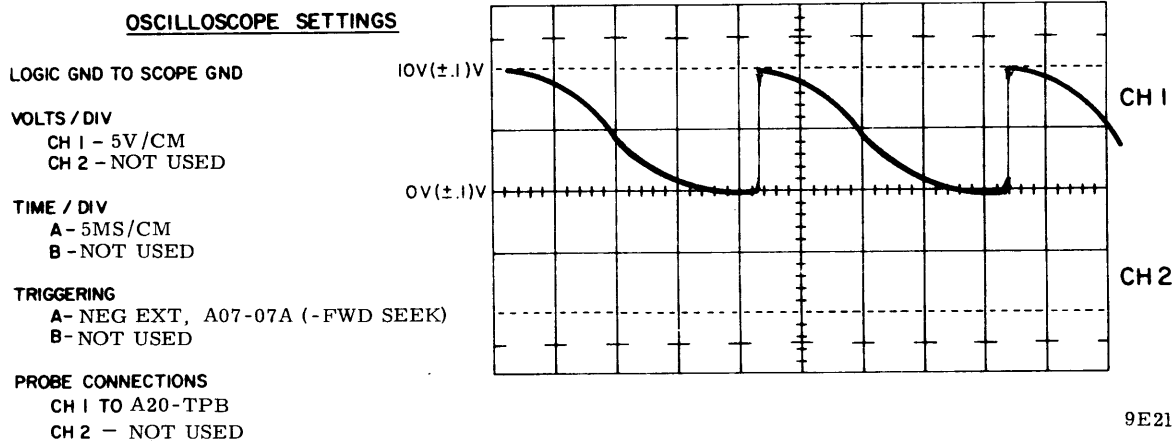

Figure 5-1. D/A Converter Output Waveform
2. Connect and set up oscilloscope as shown on figure 5-1.
4. Check that the observed waveforms are as shown on figure 5-1. Note that by further expanding this waveform it is possible to see the individual steps produced as each track is crossed. The steps should be approximately equal and about 0.07 V in amplitude (refer to figure 5-2).